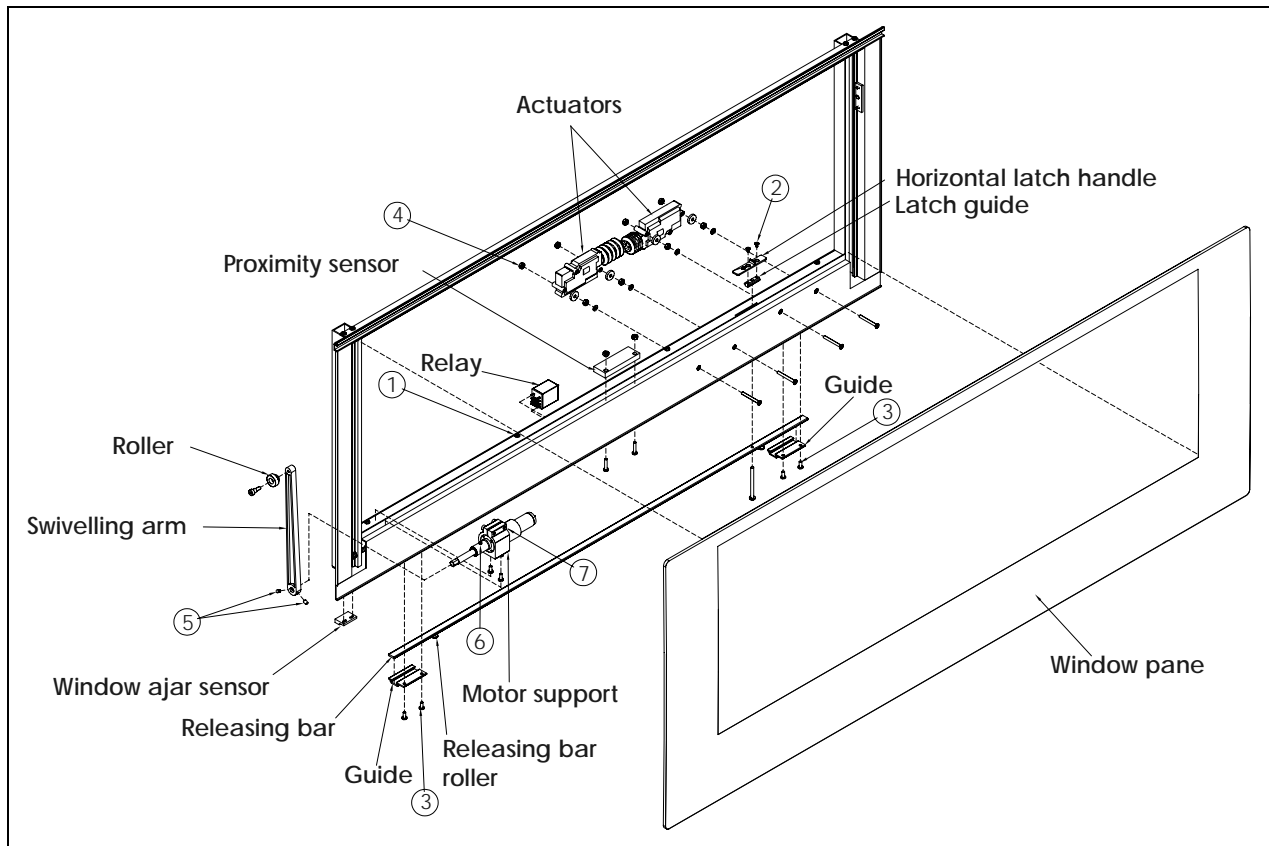

FIGURE 39: ELECTRIC AWNING WINDOW EXPLODED VIEW (SASH)
4. Loosen the set screws #5 (figure 39)(rotate the arm to get to the second set screw) and disengage the swiveling arm from the motor shaft extension.